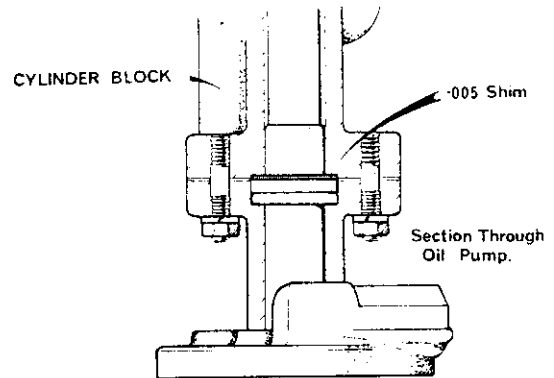

Figure 7 Oil pump drive shaft shims
7. Inspect the oil pump and drive shaft assemblies for wear or damage and renew if required. Note: In production, it has sometimes been necessary to fit one or two 0.127 mm (0.005 in) shims between the oil pump driveshaft bush and the cylinder block (Figure 7). It is not necessary when dismantling the pump to remove the drive bush or shim, if fitted. However, if the bush and shim are removed, it is essential that they are both replaced when re-assembling. Failure to do this will allow excessive end float of the distributor driveshaft resulting in poor meshing of the oil pump drive gear with resultant engine noise.